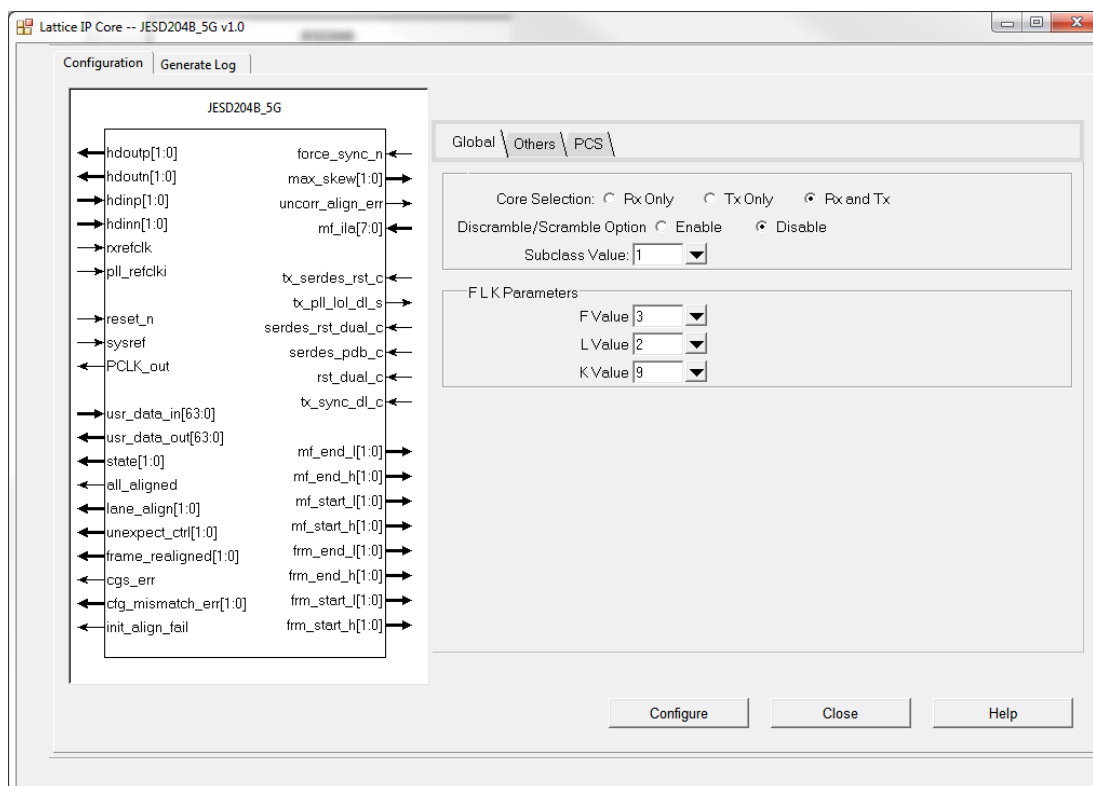

Figure 4.4. JESD204B 5G IP Configuration Interface in Clarity Designer
3. Click the **Customize** button. An IP configuration interface is displayed as shown in Figure 4.4. From this dialog box, you can select the IP parameter options specific to your application.